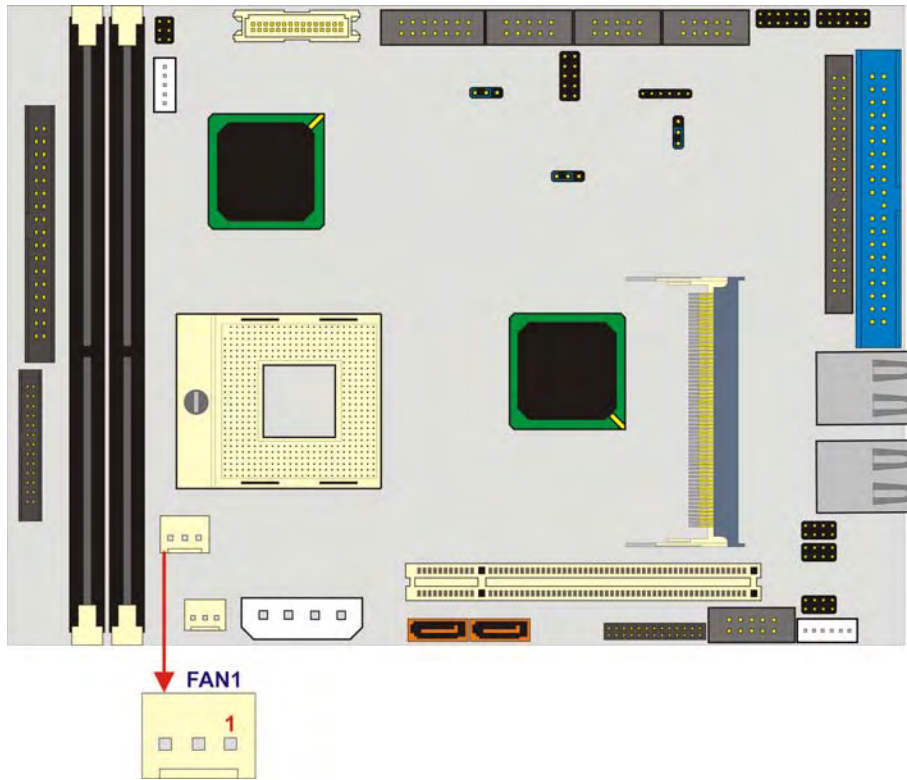

Figure 3-9: Fan Connector Location
- CN Location:** See **Figure 3-9**